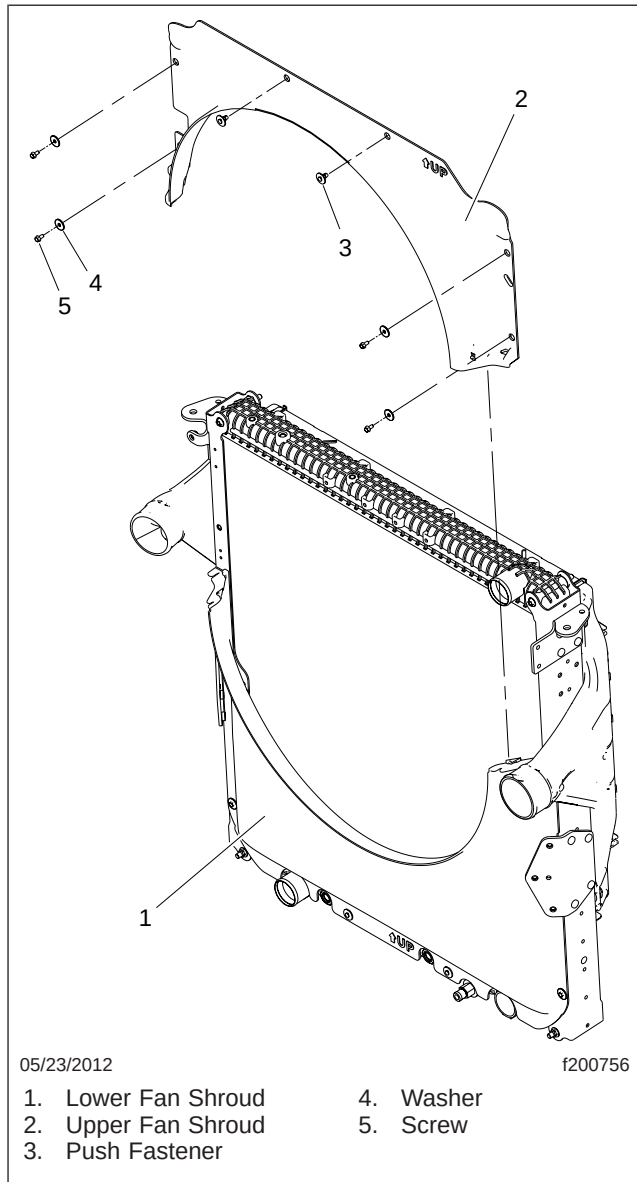

Fig. 5, Fan Shroud Installation
11. Remove the upper fan shroud. See Fig. 5.